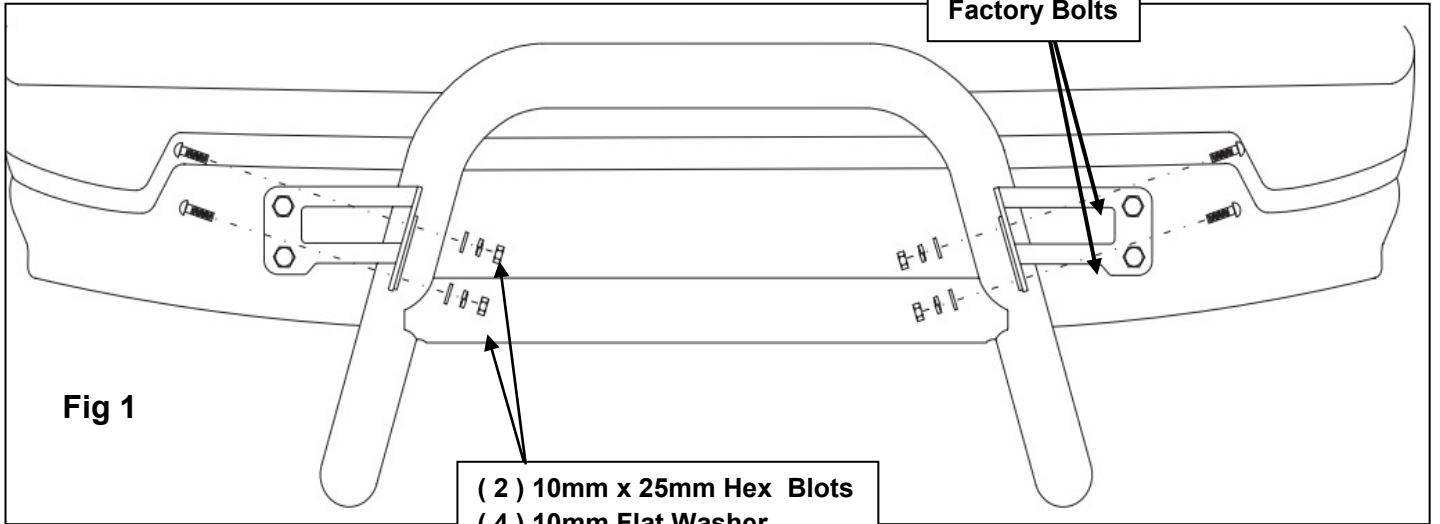

Fig 1
- Determine passenger and driver brackets. **(SEE Figure 1).**
- Locate Passenger Side Mounting Bracket and loosely attach it to vehicle by using the factory bolts removed in step two **(Figure 1)**. Passenger Side shown in Figure 3. Repeat this step for Driver Side Mounting Bracket.
- Attach Bull Bar to bracket using 10mm fasteners as shown. Leave loose.**(SEE Figure 1).**